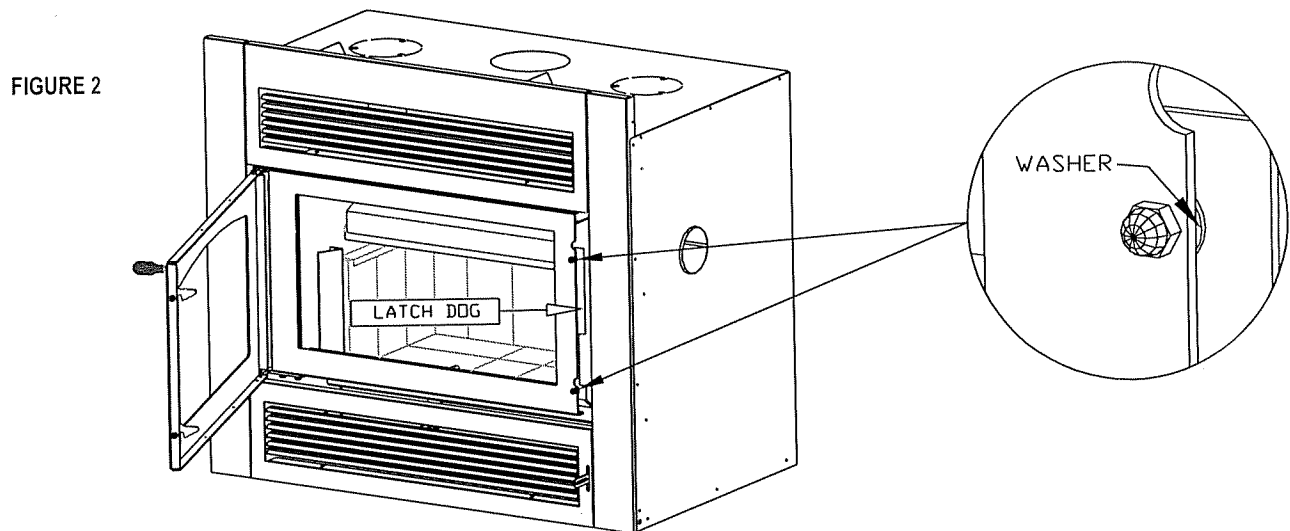

FIGURE 2
1. Open the door and locate the 'latch dog' secured to the firebox face. Figure 2